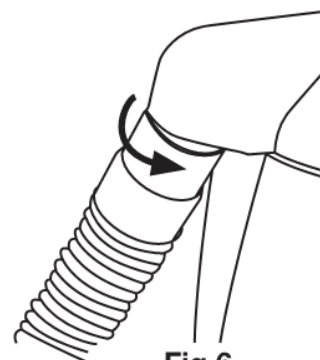

Fig 6
1. To connect the flexible hose into the hose inlet, insert the threaded end of the flexible hose into the hose inlet and turn clockwise until it locks into place (Fig. 6).